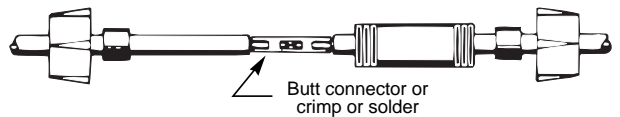

Figure 8 – Wire ends spliced
- Insert wire end into butt connector and crimp. **Match** wire colors between power supply and motor (see Fig. 8).